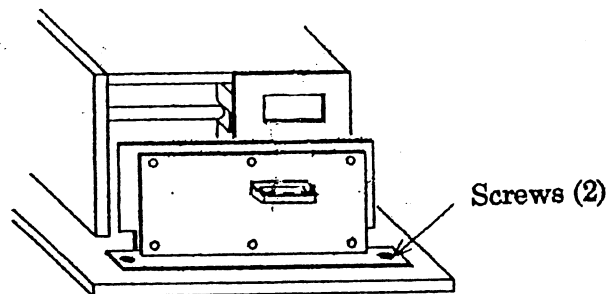

Figure 7
- (b) Remove two screws securing I/F Board stand. (See Fig.7)
(a) Remove I/F Board and its stand. (See Fig.7)